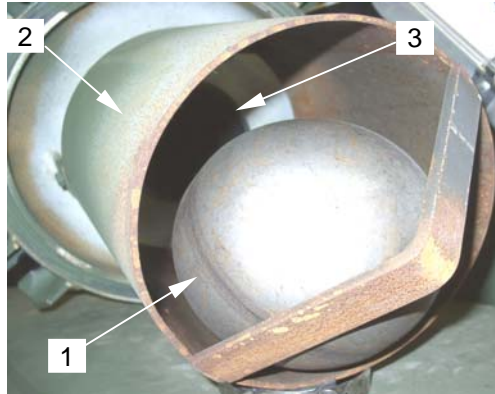

Figure 3. Primary Shutoff Mechanism
6. Rinse with fresh water and clear assembly of obstructions that may prevent their proper functioning. Inspect the primary shutoff mechanism, particularly the float ball (**figure 3, item 1**), ball cage lid mount (**figure 3, item 2**), and seat (**figure 3, item 3**).